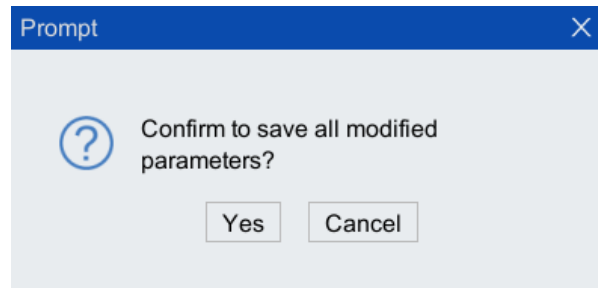

Figure 6-7 Confirm save modify prompt box
Step7. Click <Yes> in the pop-up prompt dialog box. As shown in Figure 6-7.